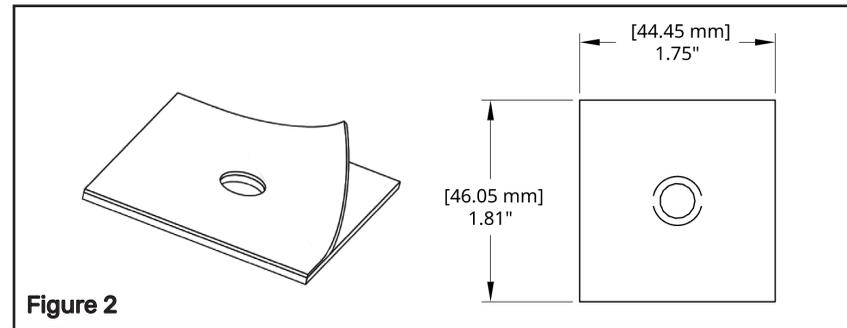

Figure 2
- Remove the adhesive backing from a gasket and **apply the sticky surface to the back of the bracket** (Note: the gasket on the other side of the glass will not have a sticky surface) - this will keep the anchor from spinning while tightening. Note: be sure to align the edges of the gasket properly (they are taller than wide) **Figure 2**.